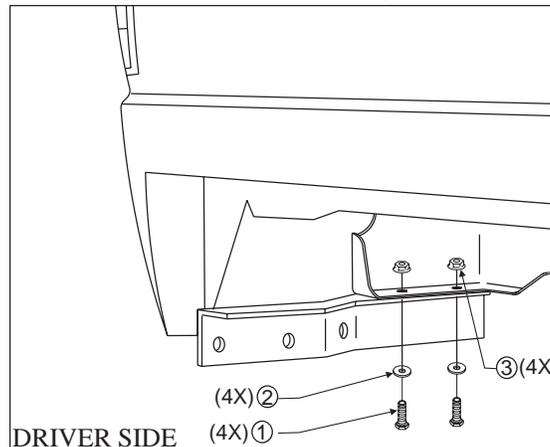
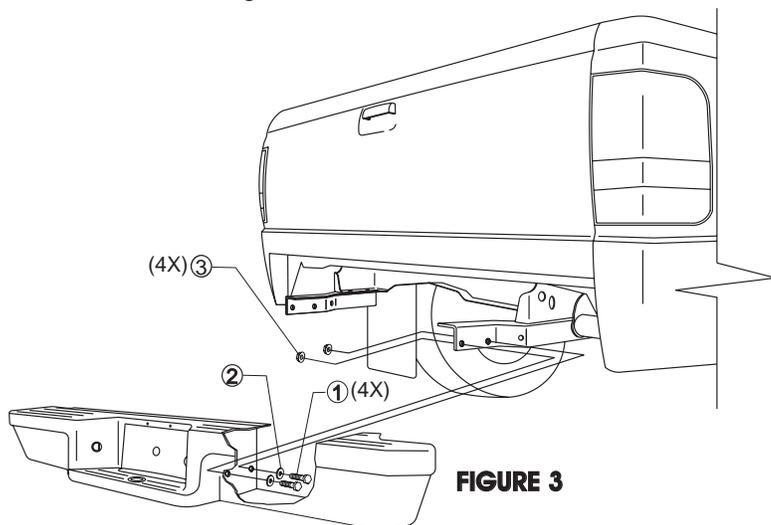

FIGURE 1
FIGURE 3
STP 1. Position the mounting brackets as shown, aligning the mounting bracket holes with the holes on the frame. Make sure the bracket is not upside down or mounted on the wrong side. Refer to Figure 1.
STEP 2. Pass (1) 1/2"-13 X 1.25" hex head bolt and (1) 1/2" flat washer through each of the mounting bracket holes. Refer to Figure 1.
STEP 3. Hand tighten (1) 1/2"-13 flange lock hex nut onto each bolt. Use a 3/4" combination wrench to prevent each bolt from rotating while tightening each nut.
- STEP 4. Position bumper to the frame of the vehicle so that the mounting holes on the bumper's hitch align with the mounting holes on the frame of the vehicle. Refer to Figure 3.